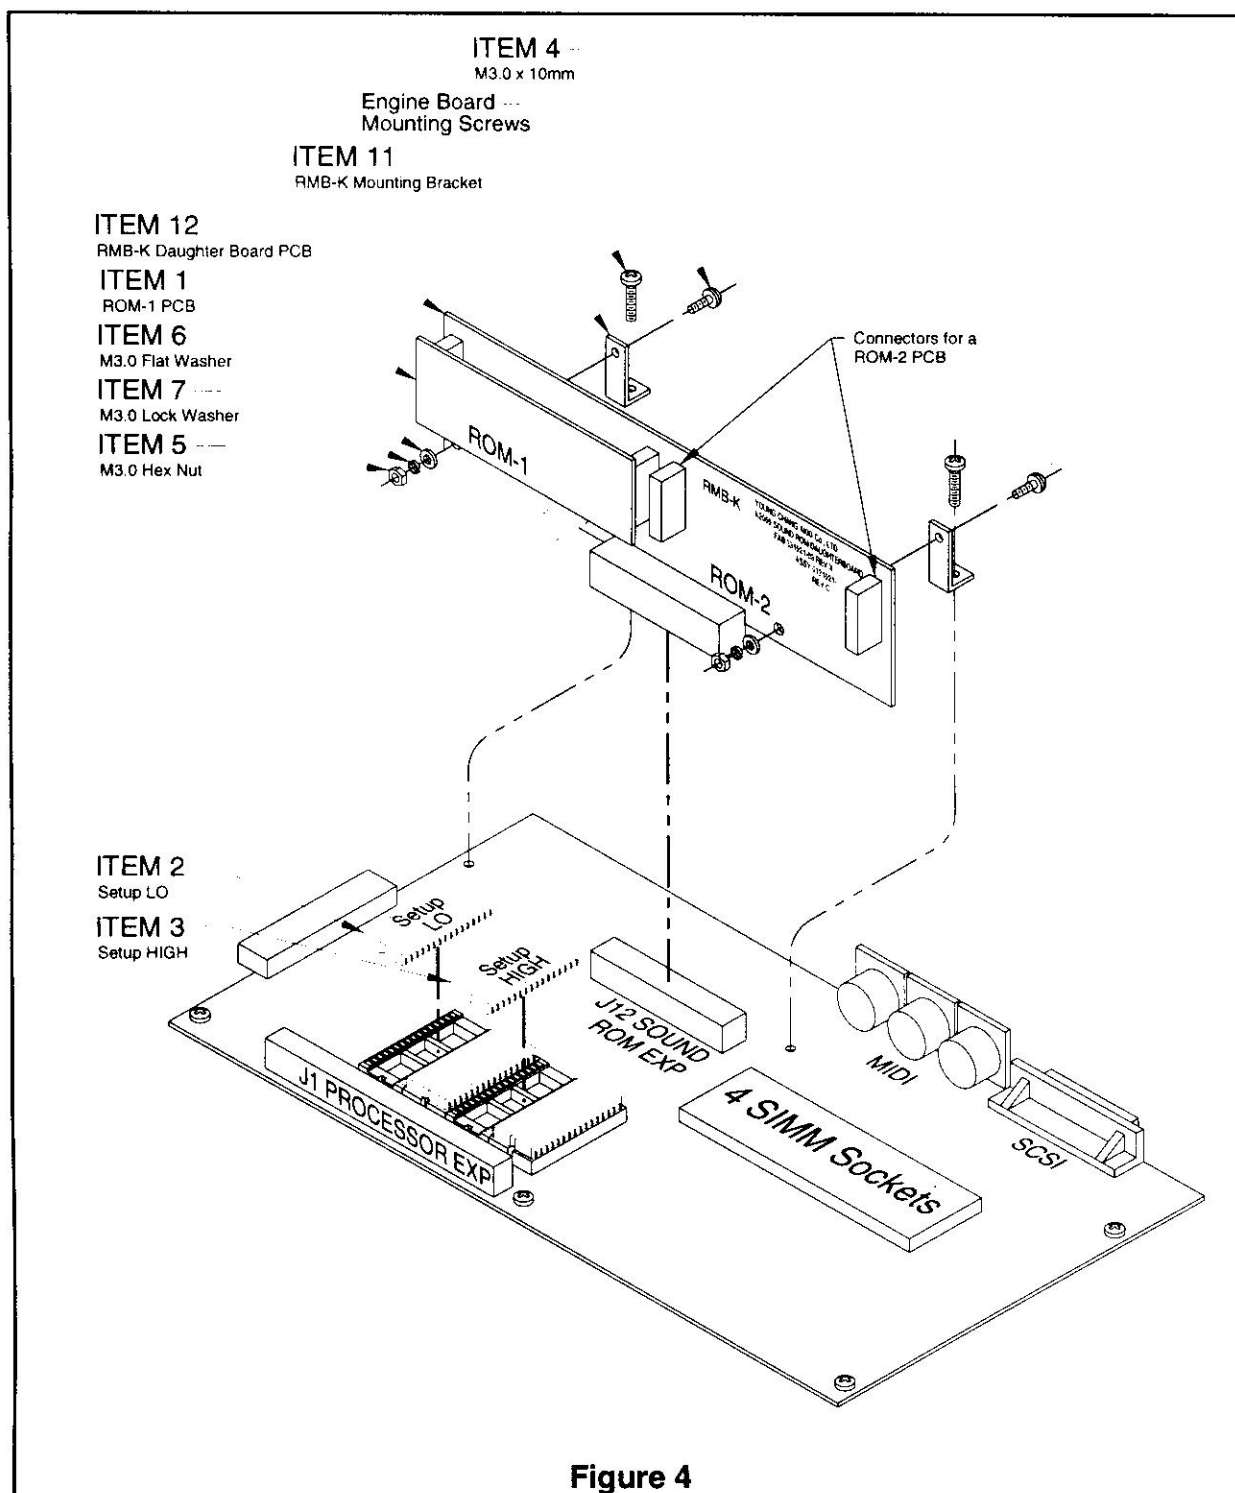

Figure 4
9. See Figure 4. Put Item 4, the (2) M3 x 10mm Screws through the two holes in Item 11, the mounting brackets, and RMB-K Daughter Board as shown. Secure the RMB-K Daughter Board to the brackets with Item 6, the M3 Flat Washers, Item 7, the M3 Lock Washers, and Item 5, the M3 Hex Nuts.
10. See Figure 4. Push the RMB-K Sound ROM Daughter Board, with the ROM board installed, onto J12, the "SOUND ROM EXP" connector. The side of the RMB-K Daughter Board with the ROM board on it should be facing connector J1, the 64 pin connector labeled "PROCESSOR EXP".
11. See Figure 4. Using Item 10, the (2) M3.0 x 14mm Self- Tapping Screws, secure the Item 11, the (2) RMB-K Mounting Brackets, to the Engine Board.
12. See Figure 4. Put Item 4, the (2) M3 x 10mm Screws through the two holes in Item 11, the mounting brackets, and RMB-K Daughter Board as shown. Secure the RMB-K Daughter Board to the brackets with Item 6, the M3 Flat Washers, Item 7, the M3 Lock Washers, and Item 5, the M3 Hex Nuts.
13. See Figure 4. Push the RMB-K Sound ROM Daughter Board, with the ROM board installed, onto J12, the "SOUND ROM EXP" connector. The side of the RMB-K Daughter Board with the ROM board on it should be facing connector J1, the 64 pin connector labeled "PROCESSOR EXP.". Replace the two Engine PCB mounting screws through the RMB-K Daughter Board mounting brackets.
14. See Figure 4. Using the Engine Board mounting screws you removed to secure Item 11, the (2) RMB-K Mounting Brackets, to the Engine Board.